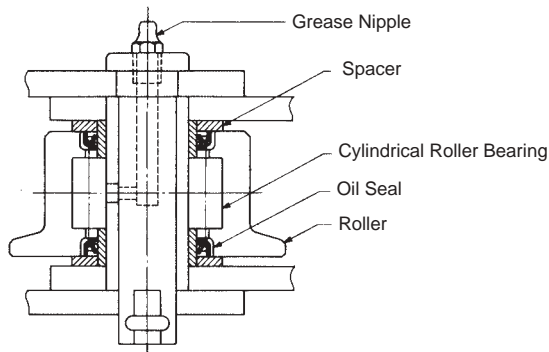

Figure 6.7 Waterproof-bearing Roller Conveyor Chain
- (2) Waterproof-bearing Roller Conveyor Chain (Figure 6.7) has heat-treated bearings made of 403 stainless steel, and includes oil-seals and grease nipples. Originally this chain was developed for the "shower test," which checks the leakage in automobile manufacturing. It can be used in any application where the chain is exposed to water spray.